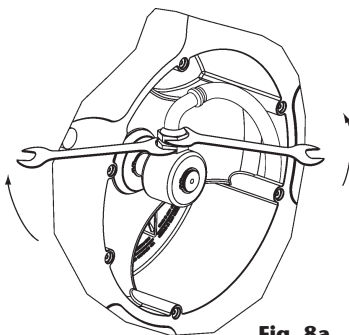
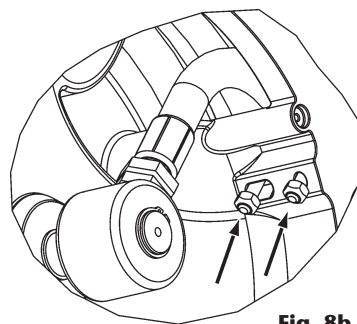

Fig. 8a
Fig. 8b
4. Fix the hose to the swivel as indicated in figure 8a and fix the U bolt as shown in figure 8b.
3. Disconnect the hose as shown (fig. 8a). Release the hose from the disk by removing the clamp (fig. 8b).